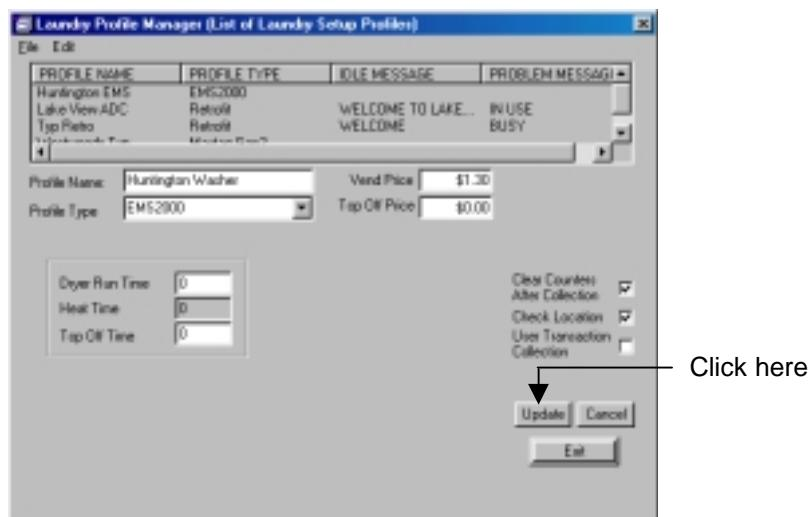

Figure 3.14 Updating the Database
5. Once all information has been entered correctly, click **Update** to store information into the database (Figure 3.14).